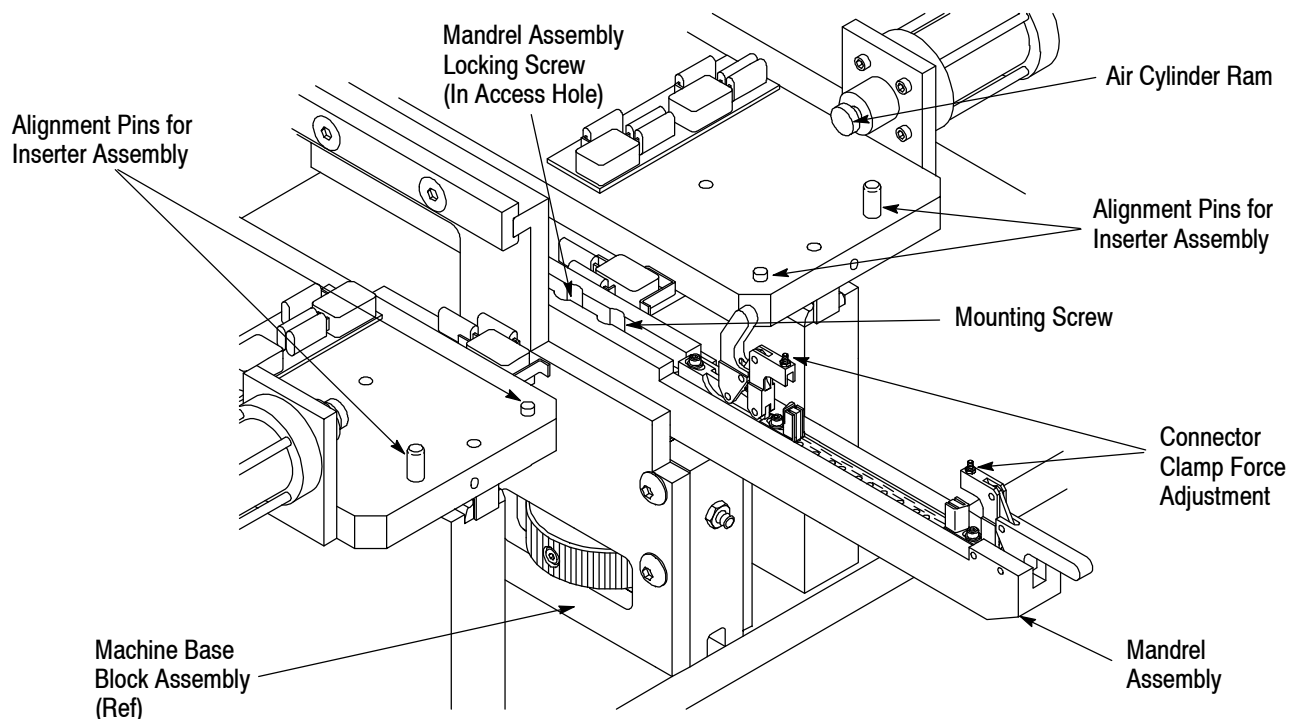

Figure 2
3.1. Mandrel Assembly (Figure 2)
3.2. Inserter Assemblies (Figures 2 and 3)
3. Using a 5/32-in. hex wrench, loosen the mandrel assembly locking screw, which is located in the center access hole. Refer to Figure 2.